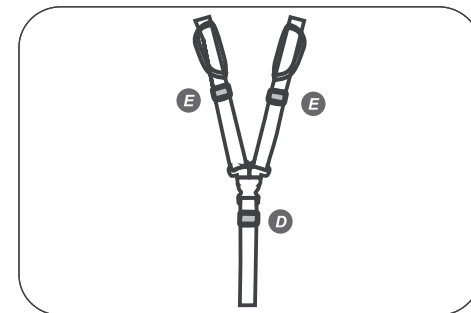

Fig. 22
29. After Buckle is connected, the 3-Point Harness can be adjusted with the Lower Adjuster **D** and/or the Upper Adjusters **E** for a snug fit (See Fig. 22).